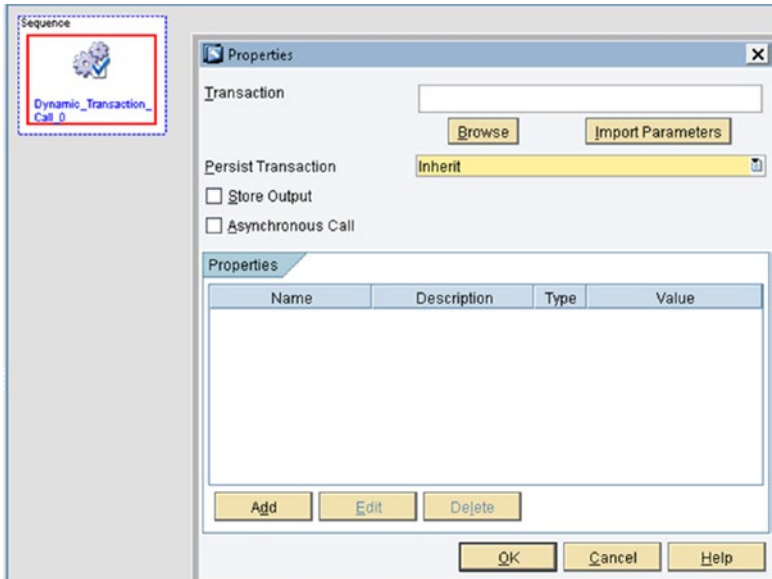

Figure 6-45. Dynamic Transaction action block
- *Dynamic Transaction call action block*: This is used to call another transaction from the nested transaction call. This is similar to the Transaction Call Action block. The only difference is that the transaction properties can be added, deleted, and mapped. Fields can be changed dynamically when the Dynamic Transaction call action block is used. See Figure 6-45.